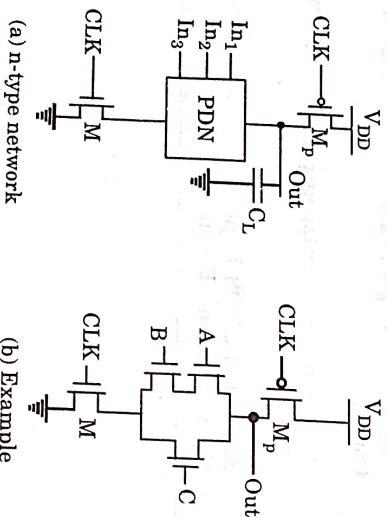

Fig. 3.1.1. Basic concepts of dynamic gate.
1. The basic construction of an (*n*-type) dynamic logic gate is shown in Fig. 3.1.1. The PDN (pull-down network) is constructed exactly as in complementary CMOS.